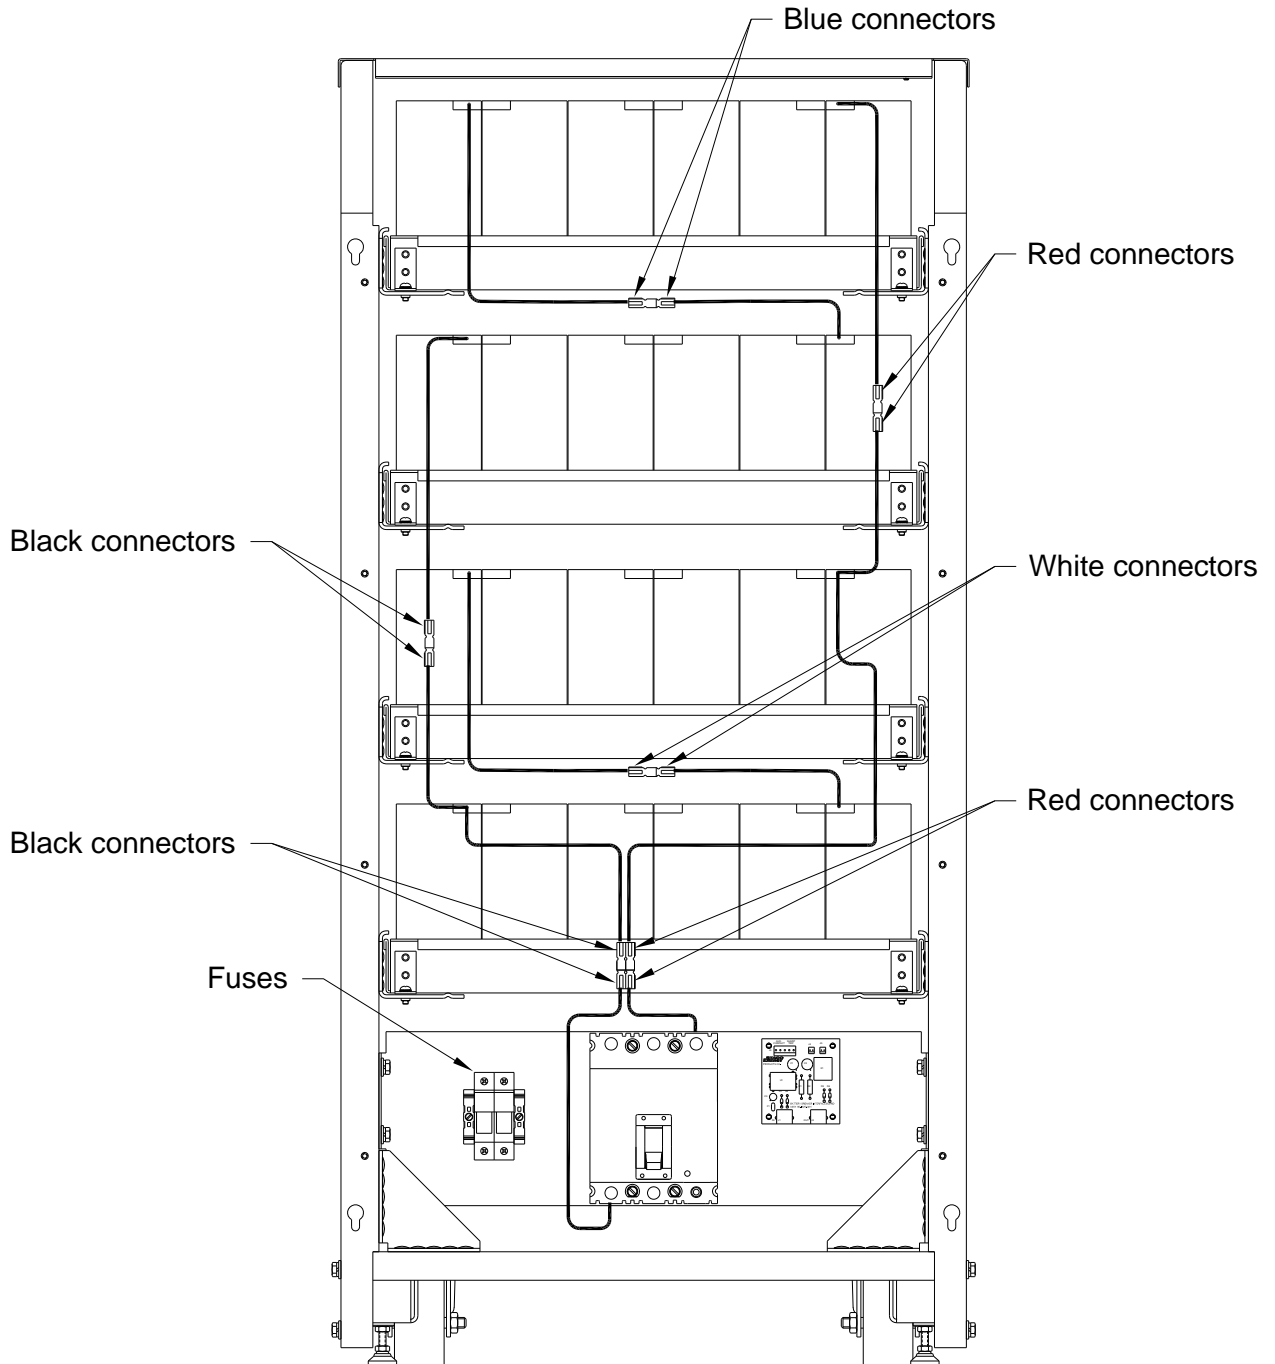

Figure 11 - Batteries
- b. Remove the front inner panel by removing 8 screws and lifting the panel clear. Inspect for bent or broken metal and for cracked battery cases or any sign of electrolyte leakage. Verify that all of the connectors shown in figure 11 are securely mated.